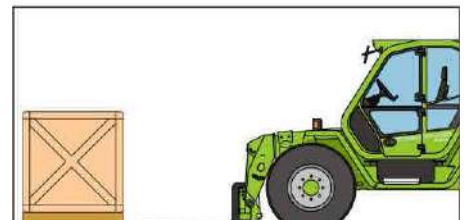
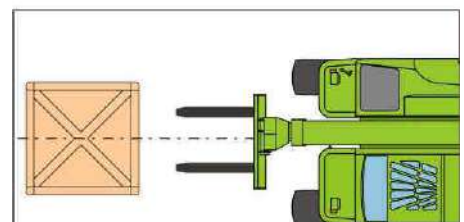

Fig.4
Fig.5
- check that safety pin "B" engages correctly, and goes back to a horizontal position once the forks are coupled; this prevents the forks from accidentally uncoupling. Do not use the forks if the pin "B" is not returned to safe position. (Fig.4)
- insert locking brackets "C" so as to prevent the forks from sliding sideways (Fig. 5).
- position the machine near the load to be lifted with the telescopic boom completely retracted and the forks in a horizontal position (Fig.4)
- turn the gearbox selector switch (19) and gear direction switch (20) to position "N"
- regulate the width and centring of the forks in relation to the load to be lifted (Fig.5)
- tyre pressure and condition (figure 4)
- presence, function and good condition of the safety belt (figure 5)